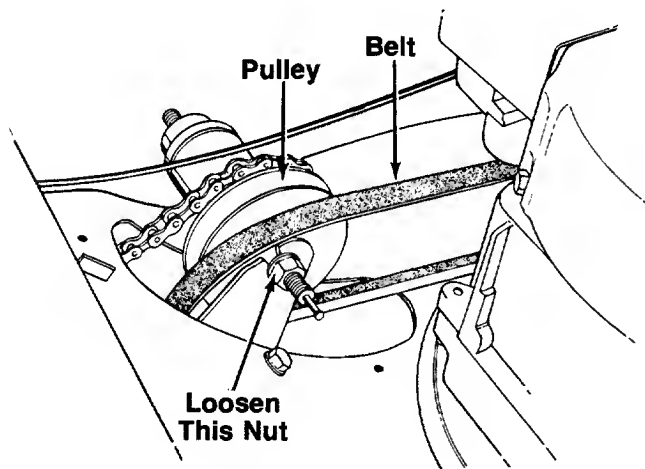

FIGURE 24.
7. Slide the belt off the pulley as shown in figure 24.
8. Loosen the nut on the inside of the three speed hub. See figure 24.